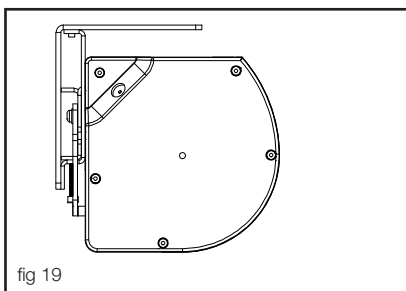

fig 19
- Hang the case on the hooks in the bracket (fig 19)
- Häng kassetten i konsolens krokar (fig 19)